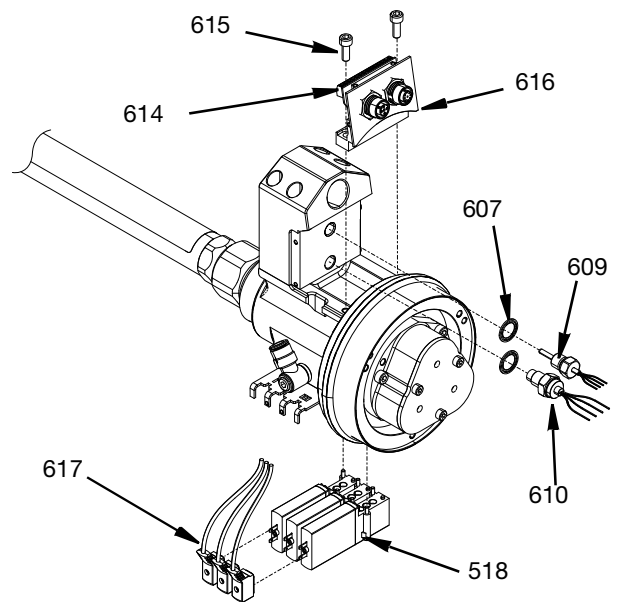

FIG. 13
1. Disconnect solenoid valve cable connections (617) from solenoid valves (518).
2. Solenoid valves (518) can be removed from the air valve manifold (516) by the screws attached to the solenoid valves.
3. Remove the dual connector bracket (616) with the dual cable connector (614) attached by removing the two screws (615) with a hex key wrench.
4. Remove the RTD sensor (609), pressure transducer (610) and 10mm washer seals (607) if equipped. Washer seals should be replaced with new ones before reassembly. See FIG. 13.